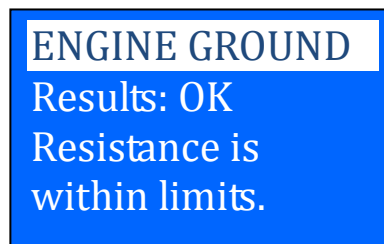

Figure 38
10. If the measured resistance reading is within limits, then it will display as follows (Fig. 38)